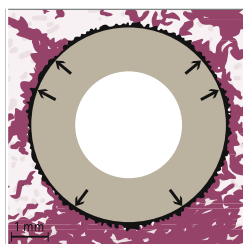

Fig. 1
- PlasmaporeXP coating allows for clear delineation of implant contours during imaging (Fig. 1)